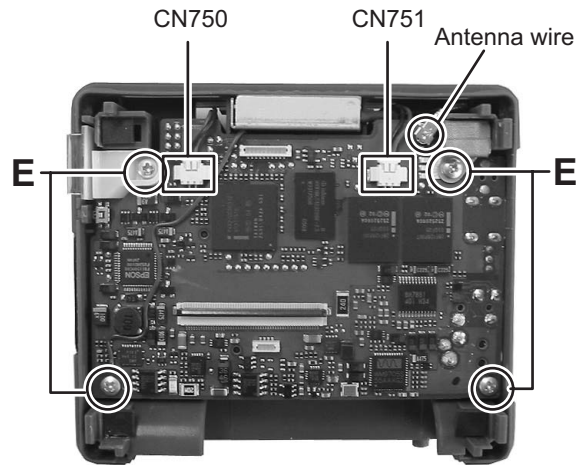

Fig.7
3.1.6 Removing the main board (See Fig.7)